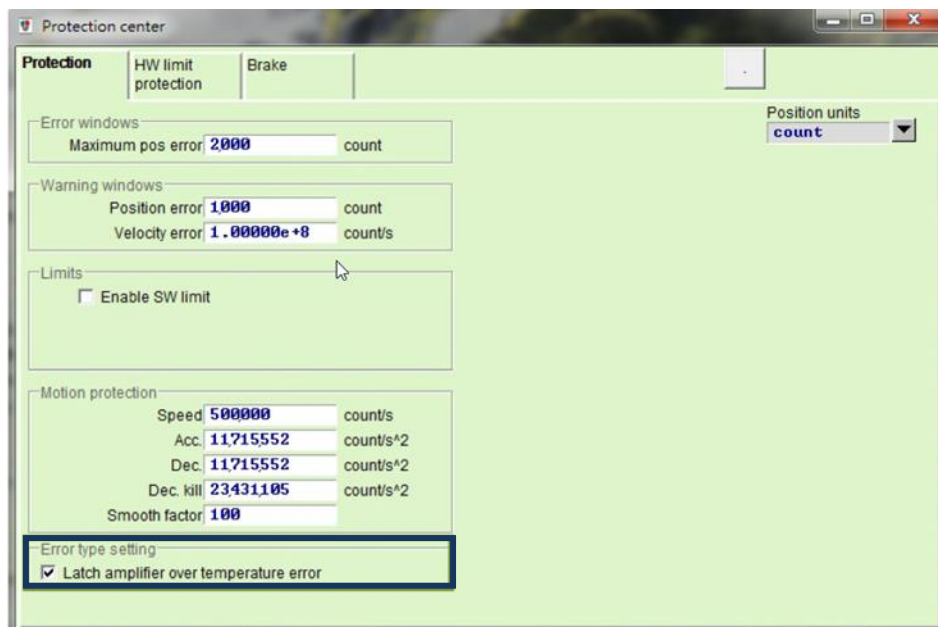

Figure9.3.1
- (1) Modify the maximum position error by steps described in figure 9.3.1.
- (2) It is not recommended to set the position error higher than the default value. If “E03 PEBIG” or “ERR E03” appears at the default value, adjust the servo rigidity.
Click on **Protection** tab in Protection center. Enable or disable this function in the setting area of **Error type setting**, as figure 9.3.1. Check the checkbox of **Latch amplifier over temperature error** to disable automatic error handling function. If the checkbox is not checked, automatic error handling function will be enabled.